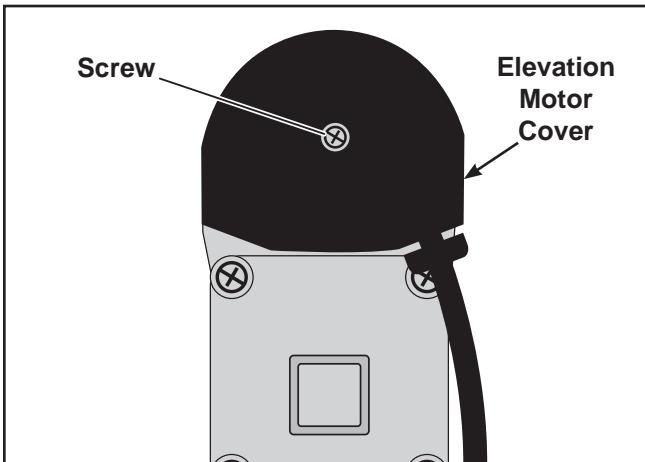

Figure 4
- A. Using a #2 Phillips screwdriver, remove the screw securing the elevation motor cover. See Figure 4.
- Using a Phillips screwdriver, secure the elevation motor cover with the screw removed in step 5A. See Figure 4.